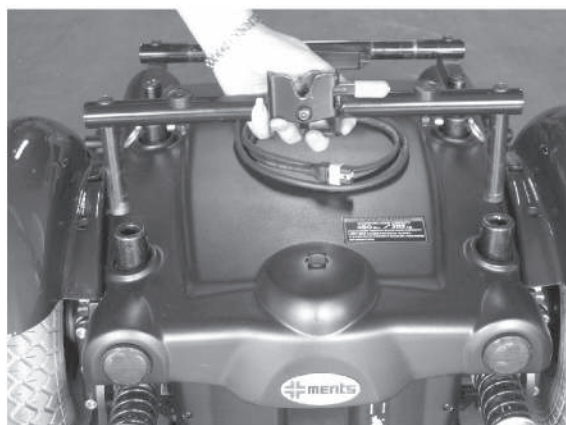

Fig D2
- (3) Pull the trapeze bar out as far as the required height until the correct hole appears in the seat tubes hole. (Fig D2)